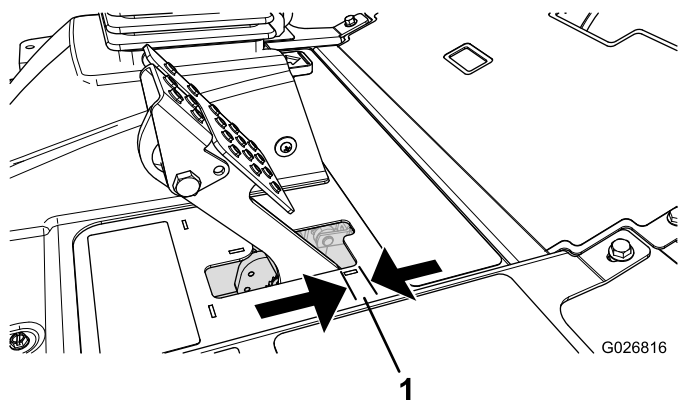

Figure 84
Adjust the brakes when there is more than 2.5 cm (1 inch) of free travel (Figure 84) of the brake pedal, or when more holding force is required. Free travel is the distance the brake pedal moves before you feel braking resistance.
2. Tighten the rear nut to move the cable backward until brake pedals have 0.63 to 1.27 cm (1/4 to 1/2 inch) of free travel (Figure 84), before wheel lock up is achieved.